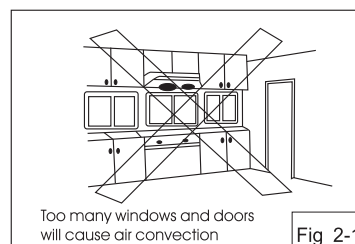

Fig 2-1
1. Too many windows and doors surrounding the appliance will cause air convection, worsening the performance of air-exhaust (Fig2-1)